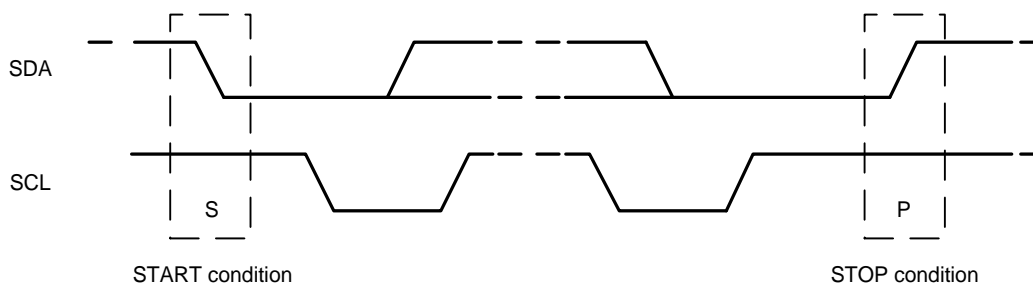

Figure 9. START and STOP Conditions
Communication on the I²C bus starts when the master puts the START condition (S) on the bus, which is defined as a HIGH-to-LOW transition of the SDA line while SCL line is HIGH (see figure below). The bus is considered busy until the master puts a STOP condition (P) on the bus, which is defined as a LOW to HIGH transition on the SDA line while SCL is HIGH (see Figure 9).